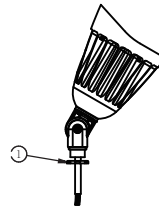
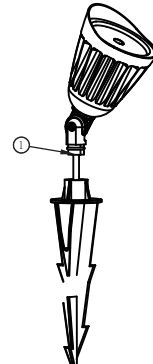

Fig. 2
Fig. 3
Removing Fixture Arm and Mounting Fixture on Stake (See Fig. 2 and Fig. 3)
- Completely loosen lock nut (Item 1, Fig. 2) to remove threaded arm from fixture.
- Thread the wires out of fixture into ground stake, and secure the fixture onto ground stake by 1/2 thread (Item 1, Fig. 3).